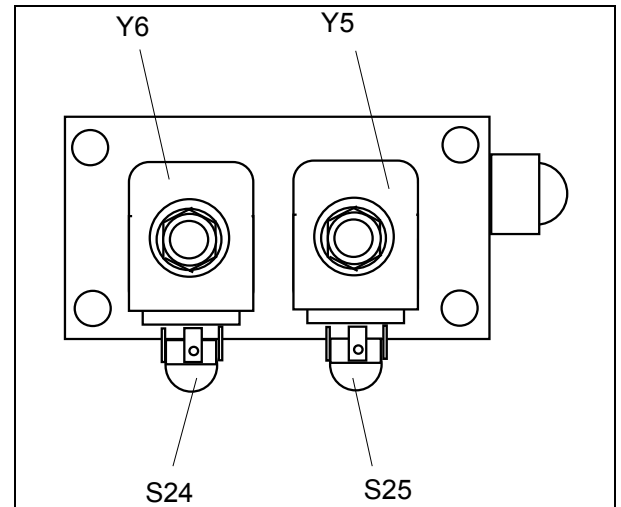

Figure 18: Functional diagram of the solenoid valve block of the Vi adjustment
The solenoid valve block (81) controls the filling and drainage of the hydraulic spaces of the Vi piston (98) of the Vi adjusting device (78). The block has 3 connection holes in its base which correspond to boreholes on the opposite surface of the compressor casing. These boreholes provide a connection to the oil system of the compressor and via external pipes to the suction side of the compressor (suction pressure p_0) as well as to hydraulic space "K" (see figure 18).